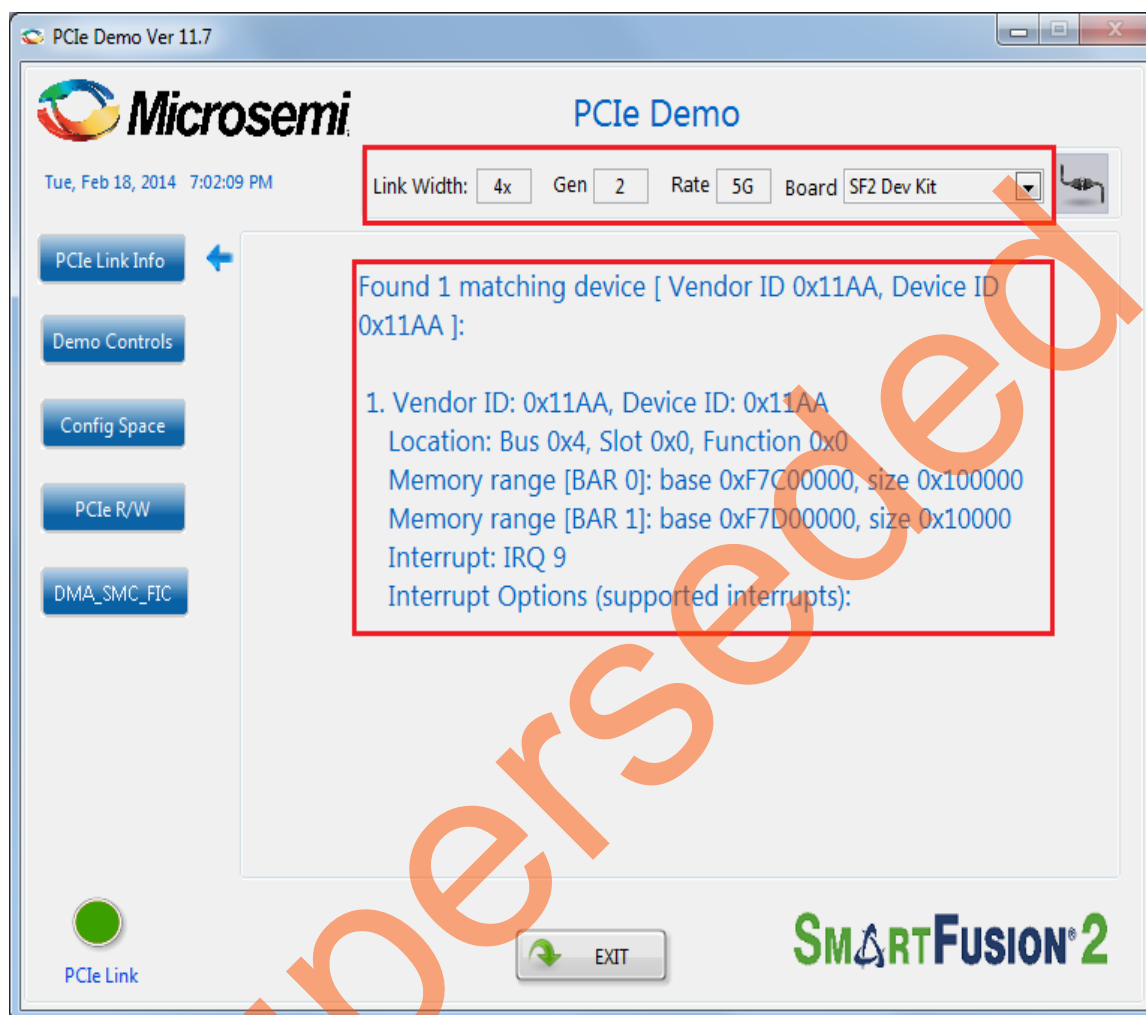

Figure 19 • PCIe Device Information
- Click **Connect** at top right corner of the PCIe_Demo application. The application detects and displays the connected kit, demo design and PCIe link. Figure 19 shows the sample messages after the connection is established.